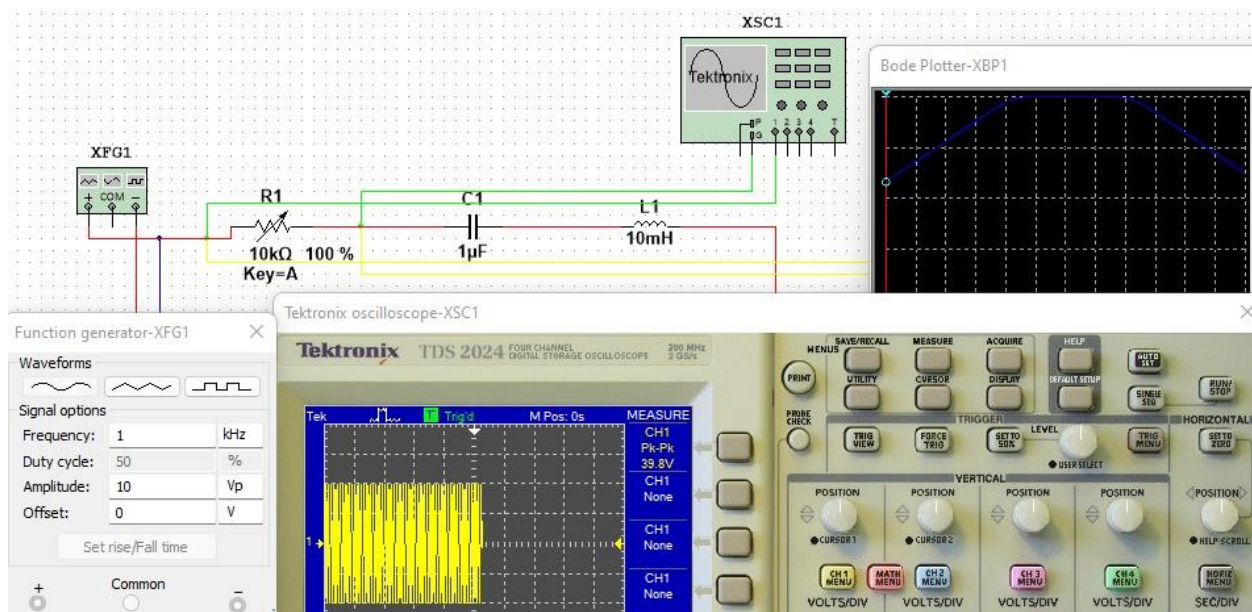

Figure 6: The Output and The Bode Plot at $10k\Omega$
- In the third part, we used $10k\Omega$ for the potentiometer, and we got the output and the bode plot as shown in **Figure 6**.